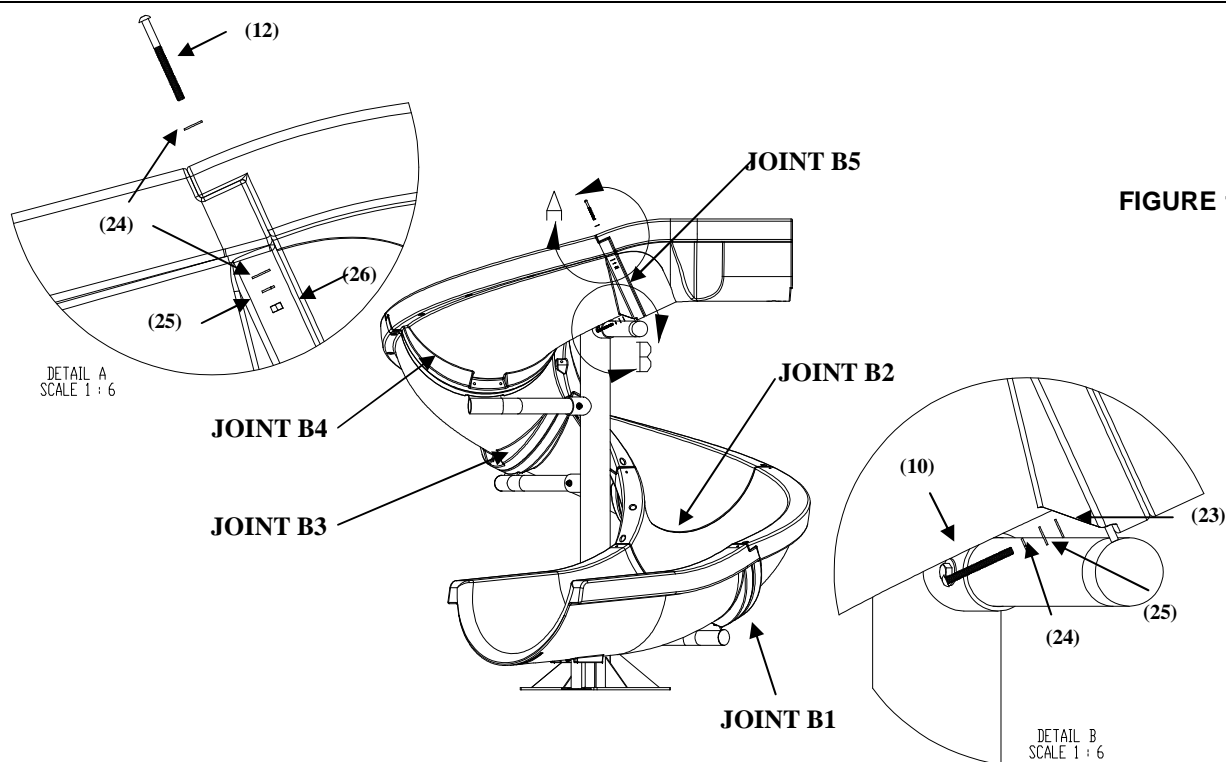

FIGURE 11
8) Assemble the Entrance Section (1) of the slide to the last Runway Section (2).
First, insert the hardware through the sides of the runway as shown in Figure 11, Detail A. The hardware required for this step is as follows: 3/8"-16 x 5" Button Head Cap Screw S/S (12), 3/8" Flat Washer S/S (24), 3/8" Flat Washer S/S (24), 3/8" Lock Washer S/S (25), 3/8" Hex Nut S/S (26).
Next, attach the runway assembly to the last branch arm, as shown in Figure 11, Detail B. The bolts will be threaded into the threaded inserts in the entrance section. The hardware required includes: 3/8"-16 x 3.5" Button Head Cap Screw S/S (10), 3/8" Lock Washer S/S (24), 3/8" Flat Washer S/S (25), and a 3/8" Nylon Washer (23).